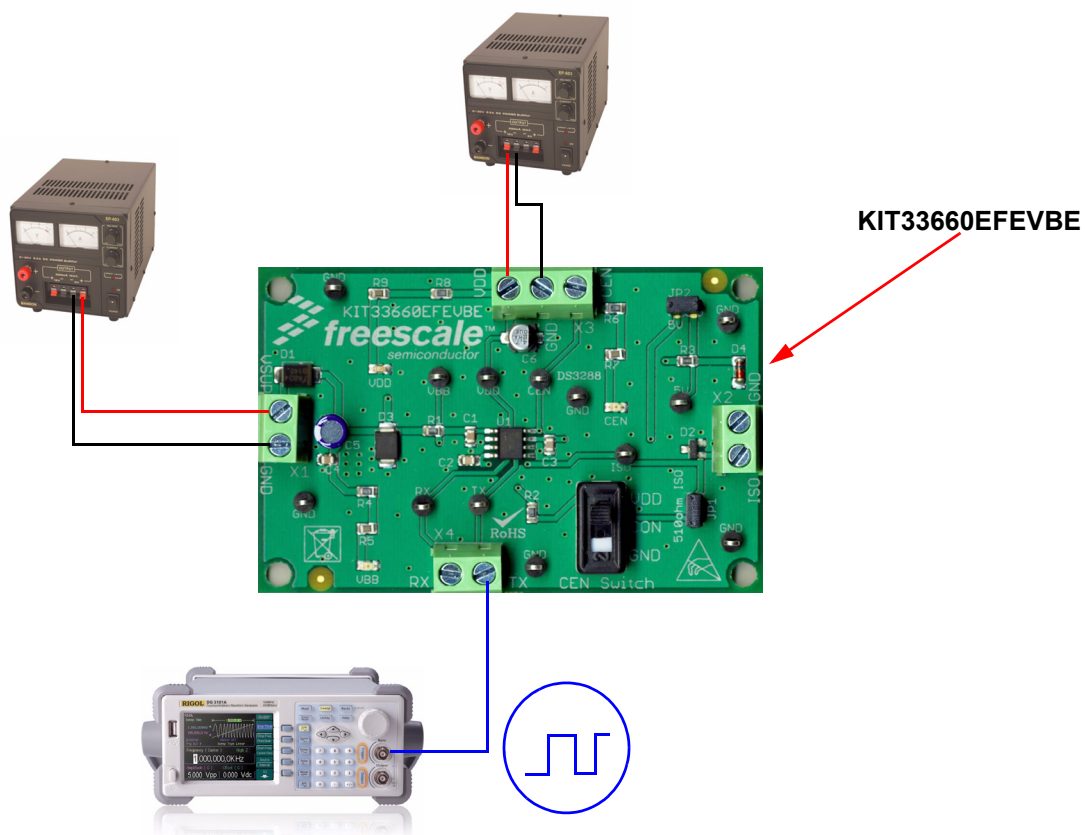

Figure 2. KIT33660EFEVBE Setup Configuration Diagram
1. Connect the power supply to the VSUP and GND terminals on the EVB, and build the setup as shown in Figure 2.